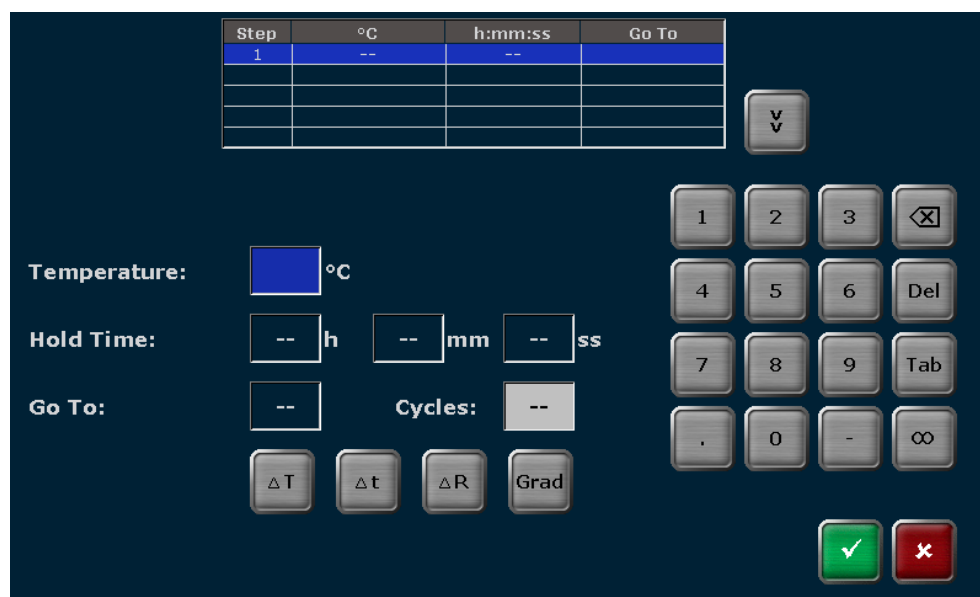

Fig. 28 Program step editing screen
The currently activated step is highlighted in blue in the table above the input fields (see Fig. 28 on page 48).
- To program a loop, select the last step of the loop and enter the step number to which the program should return in the GO TO input field (see Fig. 28).
- To define the number of repetitions, enter a number in the CYCLES field (see Fig. 28).
- To program a temperature increment, touch the [ΔT] button (see Fig. 28) and enter a value between +20°C and -20°C in the corresponding input field.
- To program a time increment, touch the Δt button (see Fig. 28) and enter a value between 0 s and 240 s in the corresponding input field.
- To adjust the ramp, press the following button (see Fig. 28):
Sample replicates are distributed across the columns of the sample block and tested for the temperature giving the optimal result. To program a gradient step press the following key (see Fig. 28)